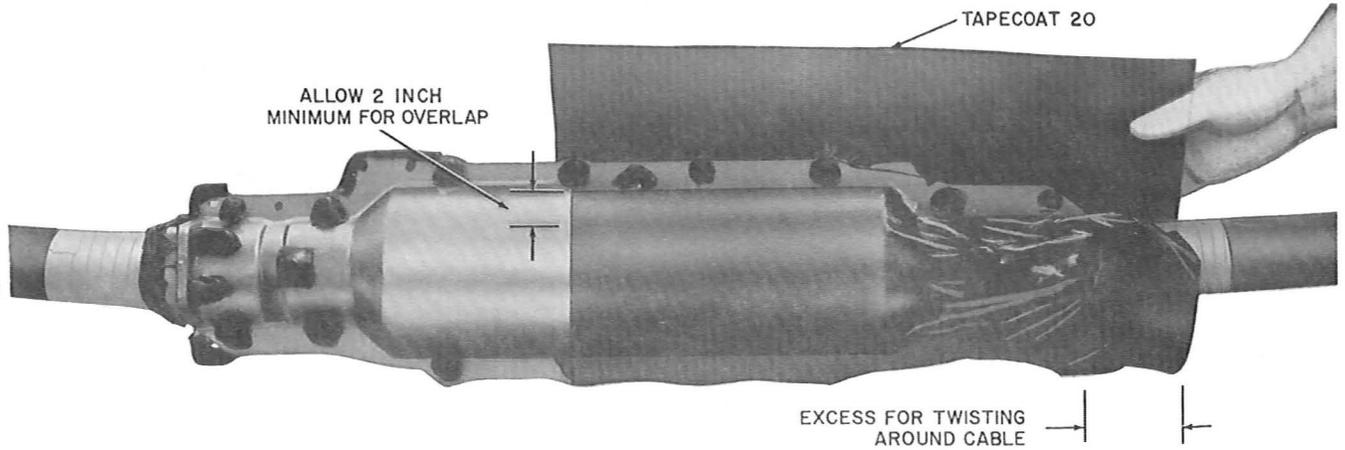

Fig. 3—Applying Tapecoat 20
(4) Apply a 2-inch overlapped layer of Tapecoat 20 to one end of the case leaving the end unsealed. Allow approximately 5 inches of the tape to extend beyond the end of the case for proper sealing (Fig. 3 and 4). When sealing the overlap, burn off that portion of plastic film